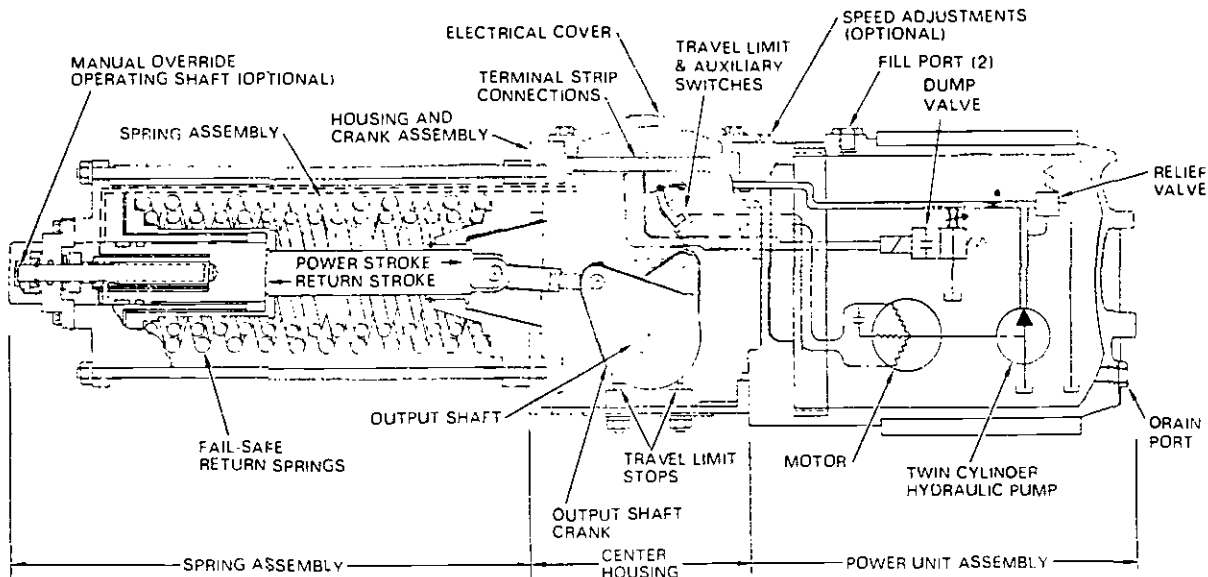

Figure 2. EHR Cross Section
1. Turn off power supplies to actuator. Remove the electrical cover and O-ring to gain access to the terminal strip (Figure 2). Note wiring diagram inside cover.
1. De-energize all power supplies. Remove electrical cover (Figure 2).
1. Power the actuator or use the manual override to move the output shaft crank away from the travel limit stop to be adjusted (Figure 2).
Two field adjustable needle valves are available as an option or kit to control the power and return stroke speeds (Figure 2). The valves are factory-set to provide the fastest possible stroke.
2. Remove the threaded seal plugs and O-rings to expose the power and return stroke needle valves (Figure 2).
The optional manual override (Figure 2) is factory set to the de-energized (zero) position. To manually position the output shaft, remove the manual override cover and use a 3/8" wrench to rotate the operating shaft counter-clockwise. Turn the shaft clockwise to return the output shaft to its original position. Adjust the manual override fully clockwise before operating the actuator.
- Kit number and name (Figure 2), and